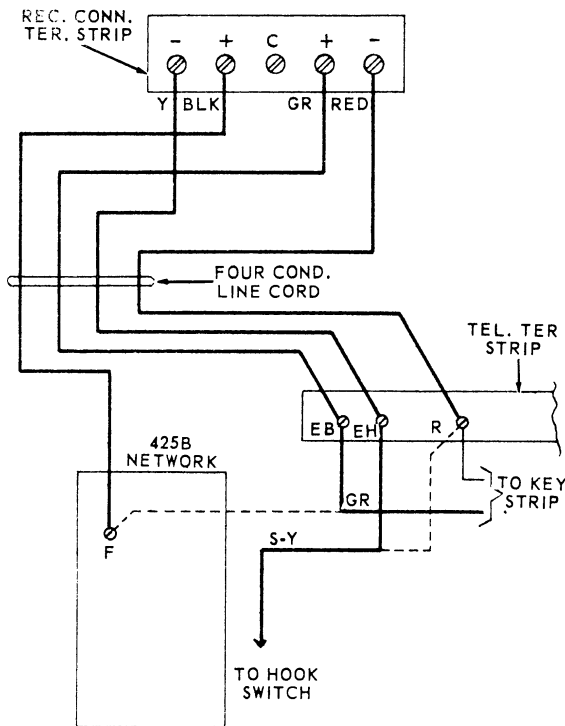

Fig. 8. 1A1 & 10A1 Modifications of Type 500 Key Telephone.
3.08 Modify the 500 telephone set with 1A1 and 10A1 wiring per Fig. 8.